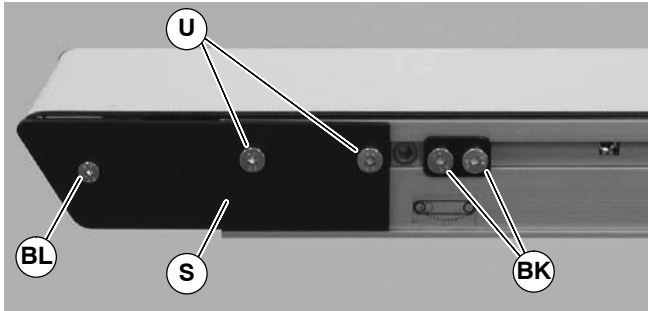

Figure 52
1. On both sides of conveyor, use a 4 mm hex-key wrench to loosen cam fastening screws (BK of Figure 52) and slide cam assemblies toward the center of the conveyor.
5. After replacing bearings, re-install head plate (S of Figure 52). Use a 3 mm hex-key wrench to tighten one (1) fastening screw (BL) to 3.4 Nm. Leave two (2) fastening screws (U) loose for belt tensioning.